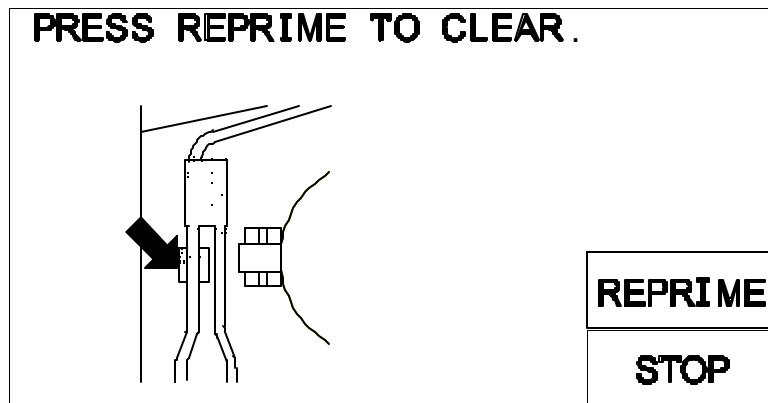

Figure 2. Air Detection alarm after checking the tubing in the air detector.
- Firmly reseat the tubing back into the air detector. Close the door. The screen in figure 2 will appear.